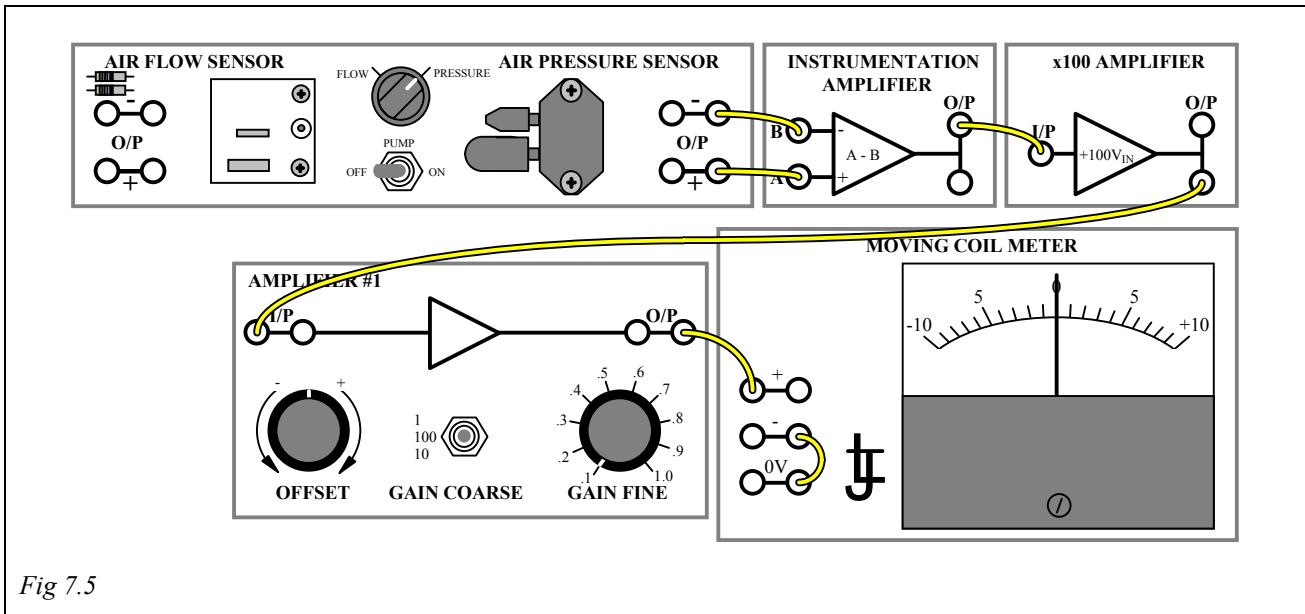

Fig 7.5
- Connect the circuit as shown in Fig 7.5 and set the Amplifier #1 GAIN COARSE control to 10 and GAIN FINE control to 1.0. Ensure that the pump switch is set OFF.